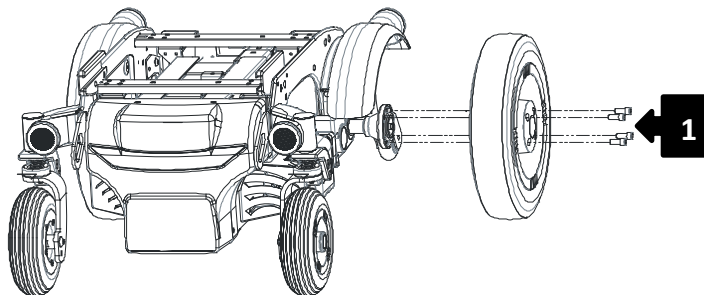
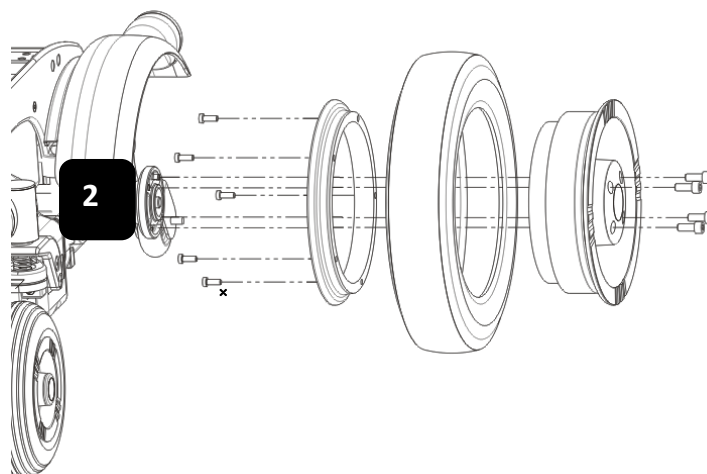

Figure 42
Figure 43
Remove the screws (1) shown in Figure 42 and remove the wheel of traction. Then remove the screws (2) indicated in Figure 43 and take away the rim; after that it is possible to remove the tire with its tube.